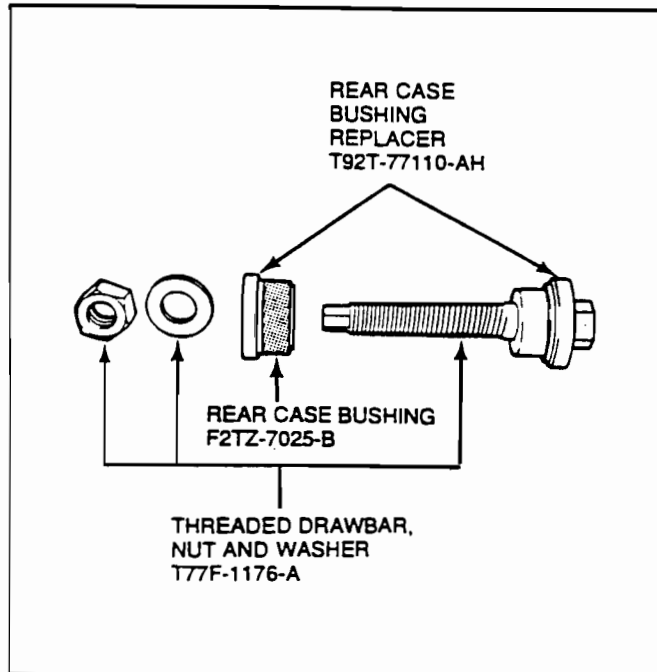

Figure 11
2. Using Rear Case Bushing Puller place the rear case bushing (**F2TZ-7025-B**) on driver as shown in Figure 11.